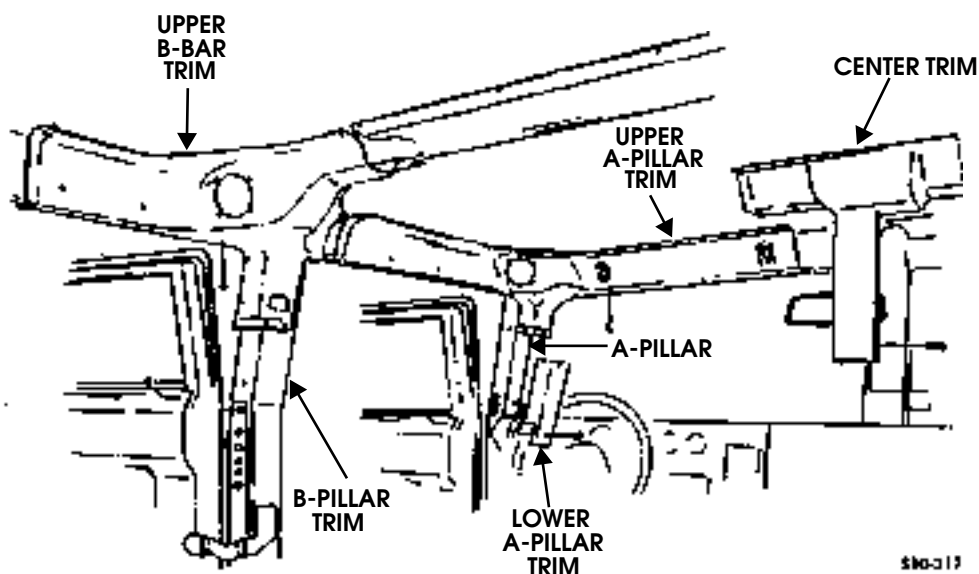

Figure 10-42: A-Pillar and B-Bar Interior Trim Identification
6. Remove screw/washer assemblies and center trim from windshield frame and roof (Figure 10-42).
- Secure upper A-pillar trim to roof with screw/washer assemblies (Figure 10-42).